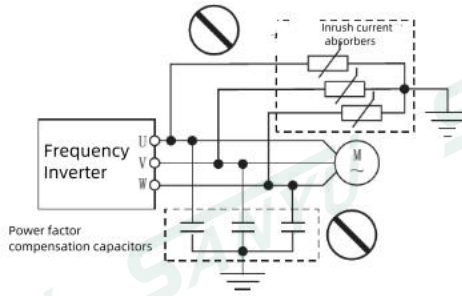

Figure 1-3
- Since the output voltage of the inverter is a PWM pulse wave, please do not install capacitors or surge current absorbers (such as varistor) at its output end, otherwise it will cause the inverter to trip or even damage the power components. If they are already installed, please be sure to remove them. See Figure 1-3 .